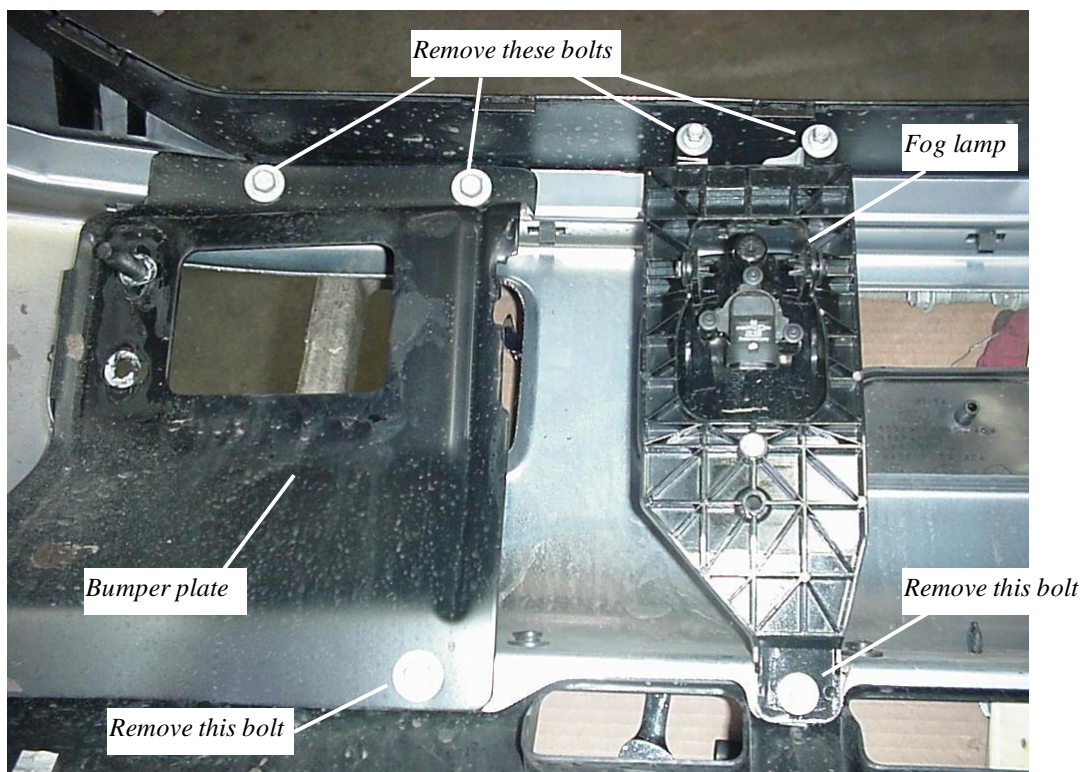

Figure 4 Rear of bumper, LH
6. Remove the bumper plates and fog lamps from bumper. **See Figure 4**